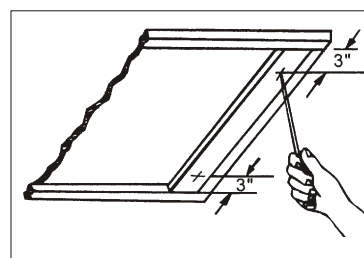

Fig.6
- b. Start a  $1\frac{1}{4}$ " long wood screw (purchased locally) about 3" from each end of the 1"x2" wood strips (Fig.6)